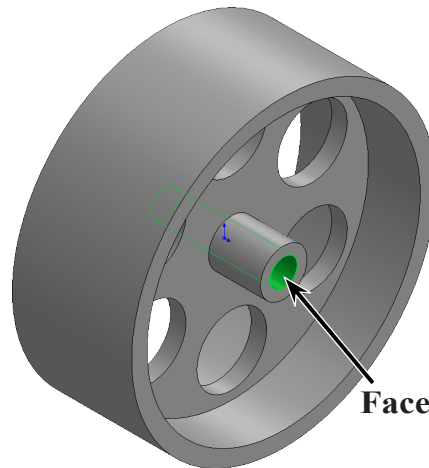

Fig. 19
Step 1. Click the **inside cylindrical face of axle hole** to select it, **Fig. 19**.